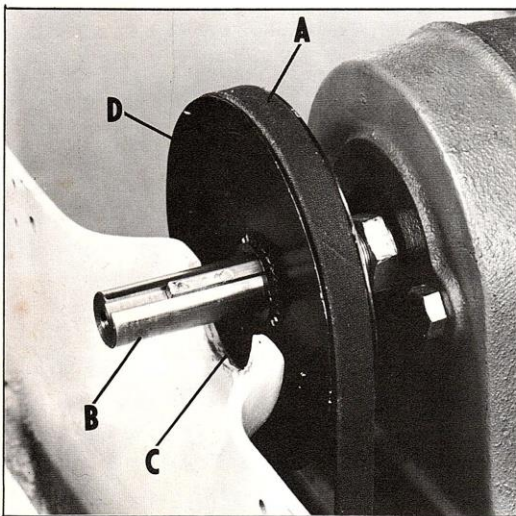

Fig. 23.
- If your machine is not equipped with the disc sander dust chute, the V-belt (A) Fig. 23, can now be removed from the machine by passing it between the shaft (B) and the lower disc guard (C).
- If the pulley (D) Fig. 23, is to be replaced, the bottom half of the disc sander guard will have to be removed by removing the two screws that attach the bottom guard to the base of the disc sander.